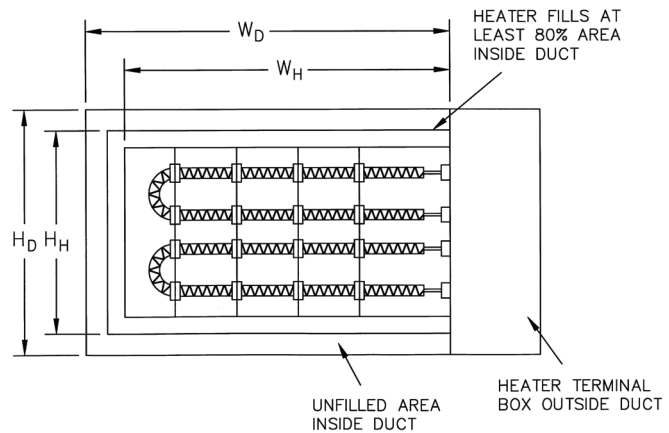

Figure 45.
**The 80% Rule** – Indeeco recommends the heater should occupy at least 80% of the actual inside area of the duct, as shown in Figure 45. Only small amounts of air will bypass the heater around its perimeter and normal turbulence will rapidly mix this unheated air with heated air downstream.